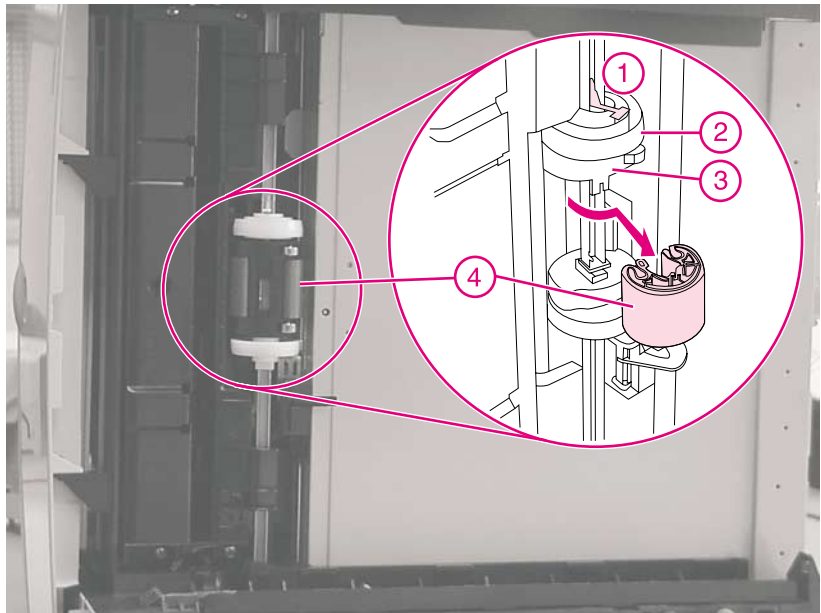

Figure 9 Removing the Tray 2 pickup roller (bottom of the printer)
- 3 Press the locking tab (Figure 9, item 1) on the white, side cam (item 2), and slide the cam and the black bushing (item 3) away from the roller (item 4).